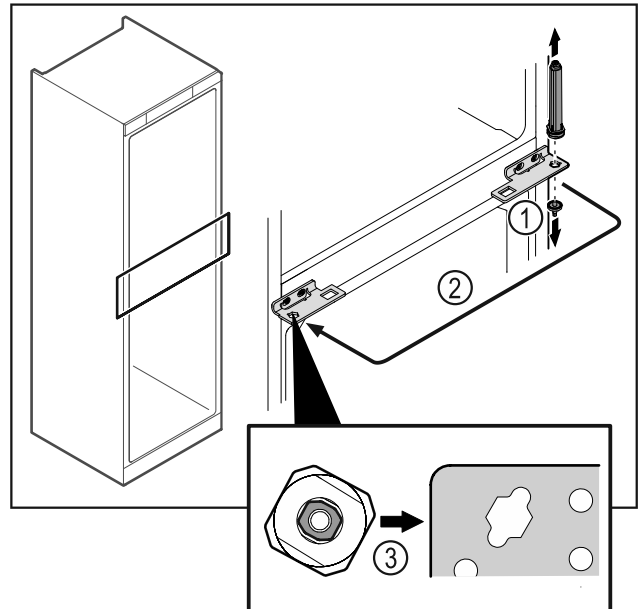

Fig. 49
- Unscrew the hinge pin Fig. 49 (1).
- Move the door closing system Fig. 49 (2).
- When inserting, make sure that the door closing system Fig. 49 (3) is correctly aligned.